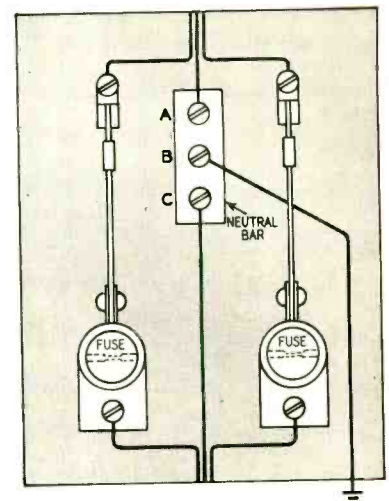

Fig. 3—The neutral bar—solid piece of copper or brass with screw terminals.
The neutral bar (see Fig. 3) is a solid piece of copper or brass to which are attached, with screw terminals, (A) the neutral conductor coming from the power transformer, (B) the neutral ground conductor for the residence, and (C) the neutral conductor leading into the house.
In this Stewart-Warner case, connection A (Fig. 3) had become so loose as to be practically open. This did not result in an open neutral, however. Current in the neutral took the alternate route through the ground conductor attached to B, then through the earth to the ground connection, always provided for power-transformer center taps.